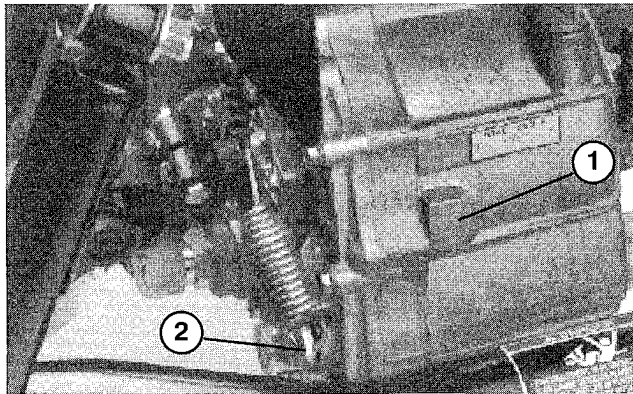

Figure 51
CHANGING TRANSAXLE / HYDRAULIC FLUID (Fig. 51)
- Remove drain plug (Fig. 51) from side of reservoir and let hydraulic fluid flow into drain pan.